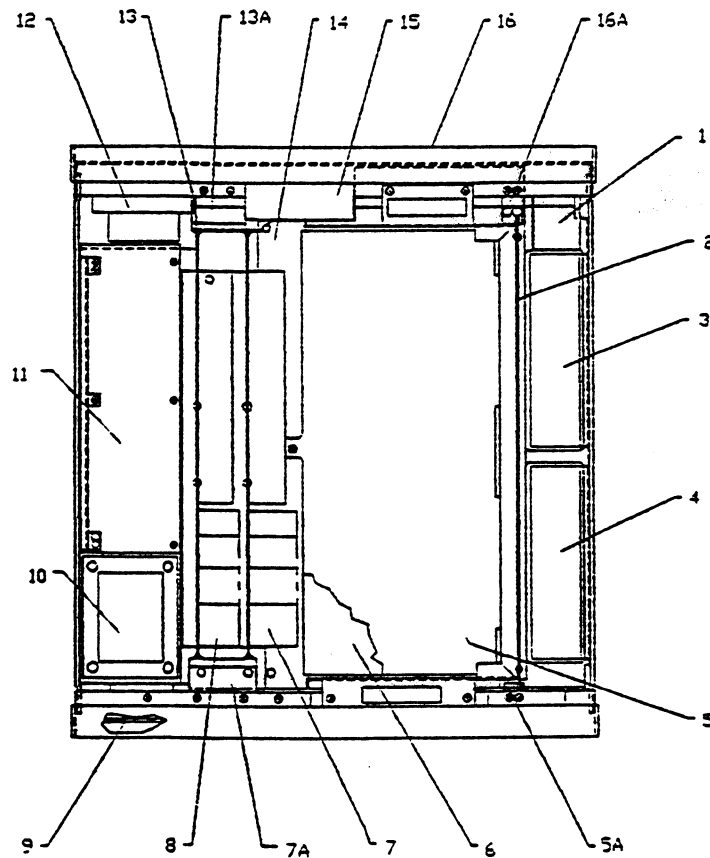

Figure 5-13. SRA Location
Unless otherwise indicated, replacement procedures are the reverse of removal procedures. See figure 5-13 for SRA location.
To replace the calibration bridge transformer assembly (1, figure 5-13), perform the following:
To replace the interconnect board assembly (2, figure 5-13), perform the following:
To replace either isolation/tapped transformer assembly (3, 4, figure 5-13), perform the following (NOTE STEP 7):
To replace the sine/cosine board assembly (5, figure 5-13), perform the following:
To replace the analog board assembly (6, figure 5-13), perform the following:
To replace an isolated power supply (7, 8, figure 5-13), perform the following:
To replace the display/keyboard assembly (9, figure 5-13), perform the following:
6. Remove four screws (5A, figure 5-13) securing card file guide bar from top and bottom
7. Remove two screws (7A, figure 5-13) securing isolated power supply assembly guide bracket from top of rear panel.
To replace the isolated power transformer assembly (10, figure 5-13), perform the following:
To replace the main power supply board assembly (11, figure 5-13), perform the following:
6. Remove isolated power supply A6 (8, figure 5-13) to facilitate performing next procedure.
To replace the main transformer assembly (12, figure 5-13), perform the following:
5. Remove two screws (16A, figure 5-13) securing card file guide bar from top of rear panel.
6. Remove two screws (13A, figure 5-13) securing isolated power supply guide bracket from top of front panel.
To replace the system board assembly (14, figure 5-13), perform the following: